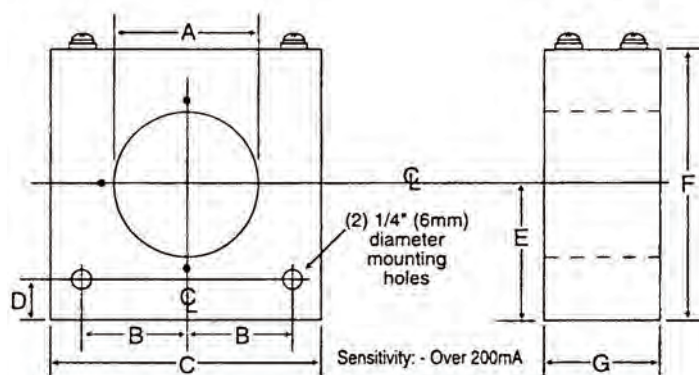

Figure 3 - Type T2A
In all cases the ZSCS mounting should be such that the current carrying bus bars which are not perpendicular to either the long or short side of the sensor should be as far as possible from the sensor. As guideline the following minimum clearances (X) should be applied to (Fig. 3).